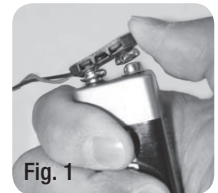

Fig. 1
4. Use thumb to push the terminal cap up, off the battery (Fig. 1).